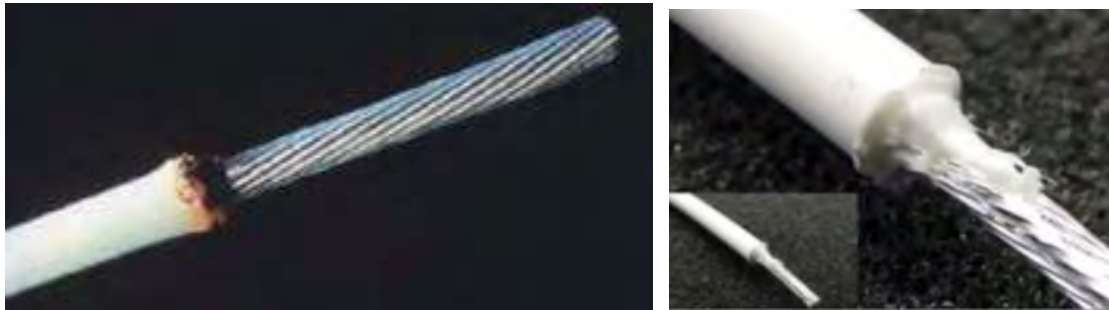

Figure 236
5. If thermal stripper was used, ensure the jacket is not burned or melted into the wire strands as shown in Figure 236.